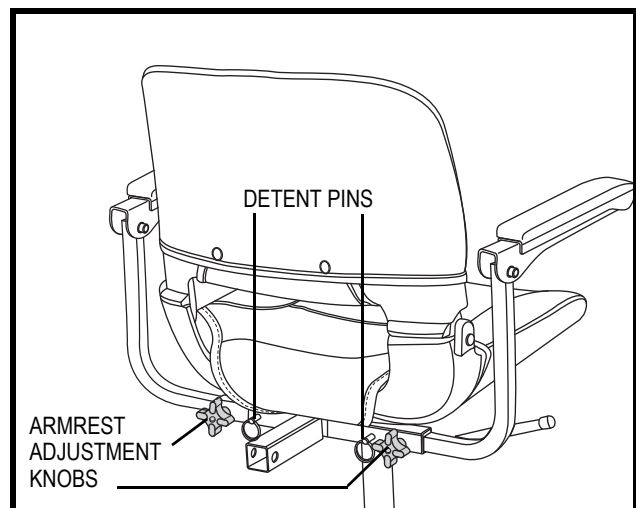

Figure 17. Armrest Width Adjustment
1. Loosen the armrest adjustment knobs. See figure 17.